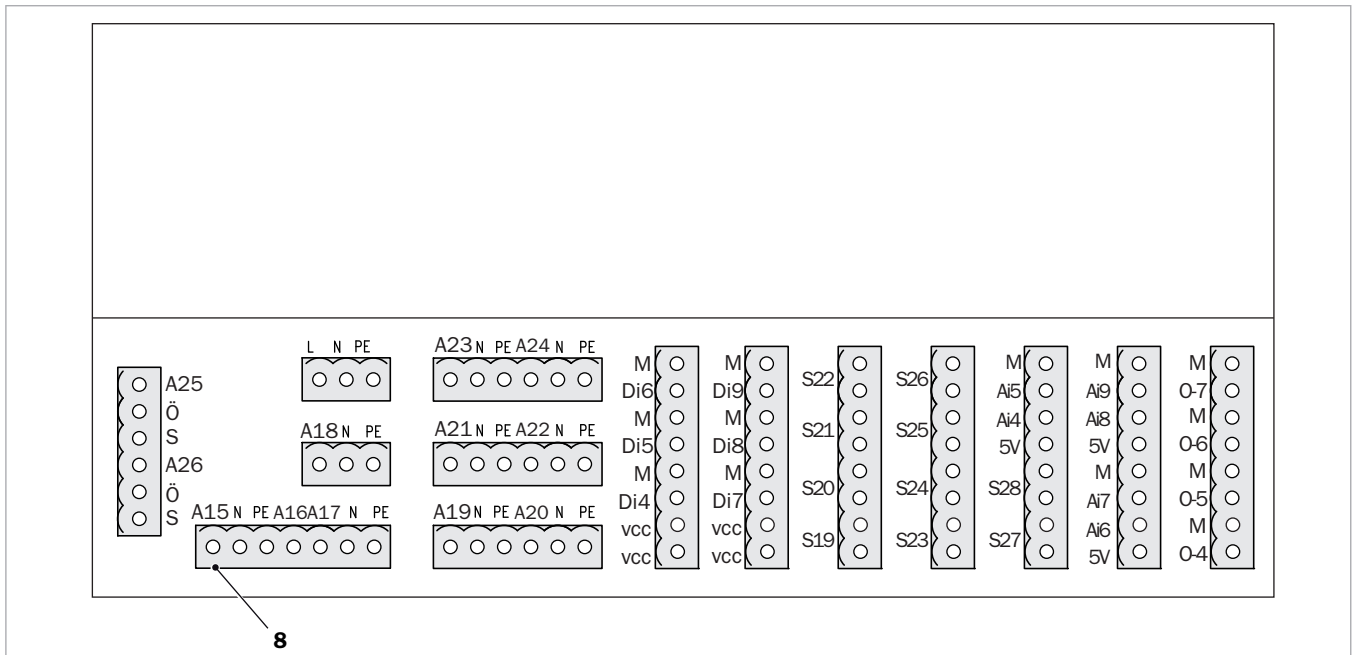

Fig. 9: Additional board
3. Remove the plugs for the pumps (2 - 7) from the mains module and (8) the additional board (→ Fig. 9) and plug them into (2 - 8) the emergency cable tree.